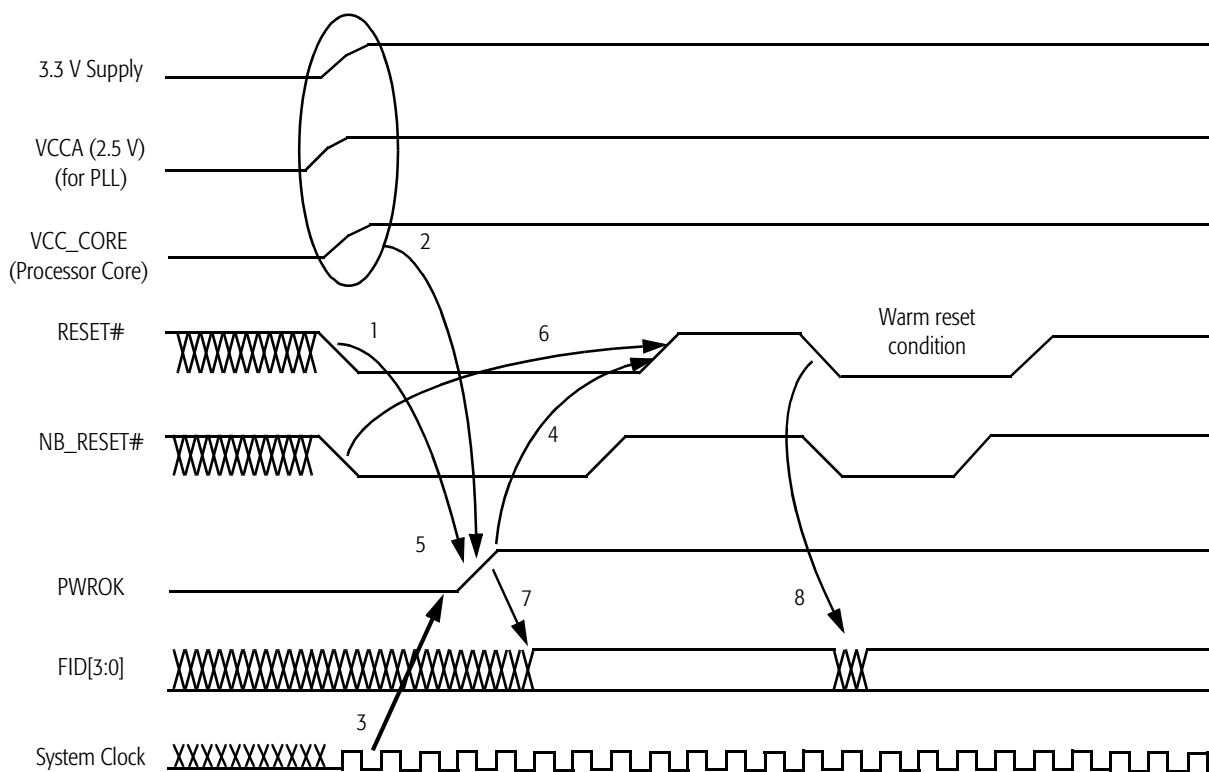

Figure 12. Signal Relationship Requirements During Power-Up Sequence
Figure 12 shows the relationship between key signals in the system during a power-up sequence. This figure details the requirements of the processor.
Notes: 1. Figure 12 represents several signals generically by using names not necessarily consistent with any pin lists or schematics.
2. Requirements 1-8 in Figure 12 are described in “Power-Up Timing Requirements” on page 44